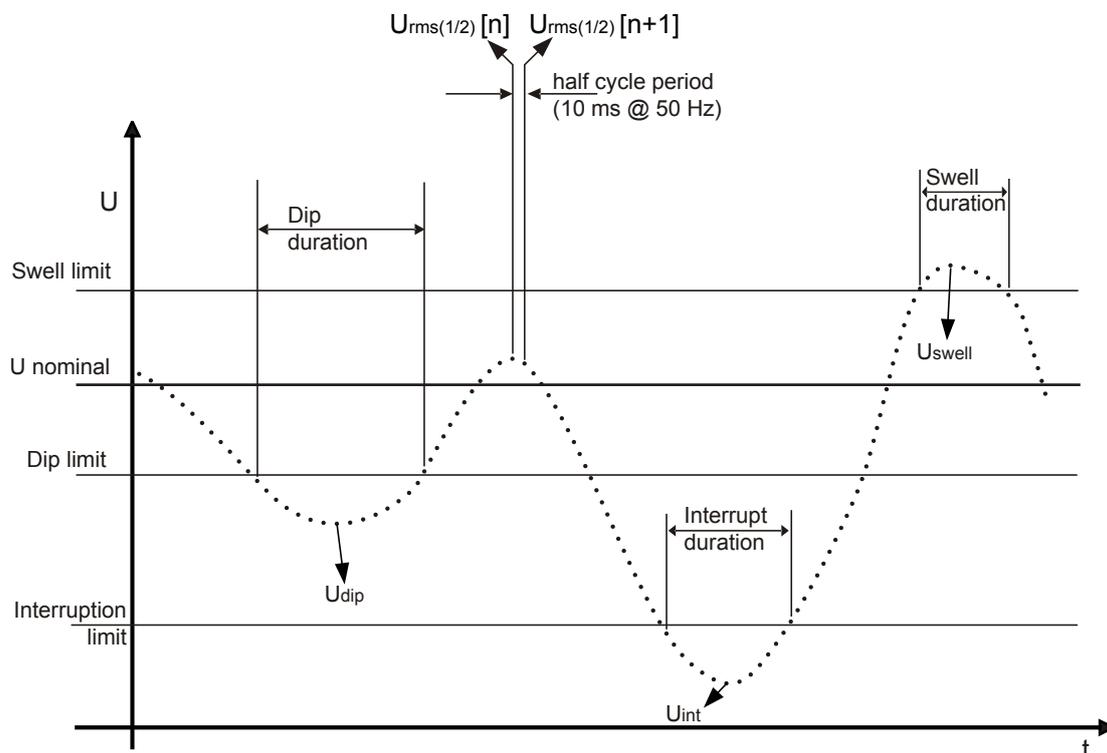

Figure 5.8 Voltage events definition
- On single-phase systems, a voltage dip begins when the $U_{Rms(1/2)}$ voltage falls below the dip threshold, and ends when the $U_{Rms(1/2)}$ voltage is equal to or above the dip threshold plus the 2% of hysteresis voltage (see Figure 5.8)
- on single-phase systems, a voltage swell begins when the $U_{Rms(1/2)}$ voltage rises above the swell threshold, and ends when the U_{Rms} voltage is equal to or below the swell threshold plus the 2% of hysteresis voltage (see Figure 5.8),
- On single-phase systems, a voltage interruption begins when the $U_{Rms(1/2)}$ voltage falls below the voltage interruption threshold and ends when the $U_{Rms(1/2)}$ value is equal to, or greater than, the voltage interruption threshold plus the hysteresis (see Figure 5.8),